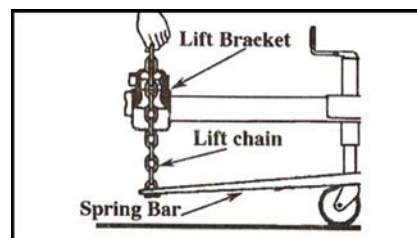

Figure 13: Center the lifting bracket parallel with the spring bar chains.
•Position the spring bar, which has been attached to the hitch head, parallel with the trailer tongue. Hold the lift chain vertical up alongside the trailer tongue. Position the lift bracket on the trailer tongue so that the chain is centered between the lift bracket (see Figure 13). NOTE: If chain is angled it may catch the bracket when turning, this can damage the lift bracket or pry it open during use.
•Mark the location of the lift bracket on the trailer tongue then start installing the 1/2" x 3-1/2" bolt ⑥ into the threaded hole in the lift bracket. Turn the bolt in until it contacts the trailer tongue, then tighten 1/4 turn with a wrench. DO NOT OVERTIGHTEN.
- With the lift bracket in the raised and locked position, pull straight up firmly on the spring bar lift chain. Note which link is closest to the lift bracket hook. Mark the next lower chain link (see Figure 13).